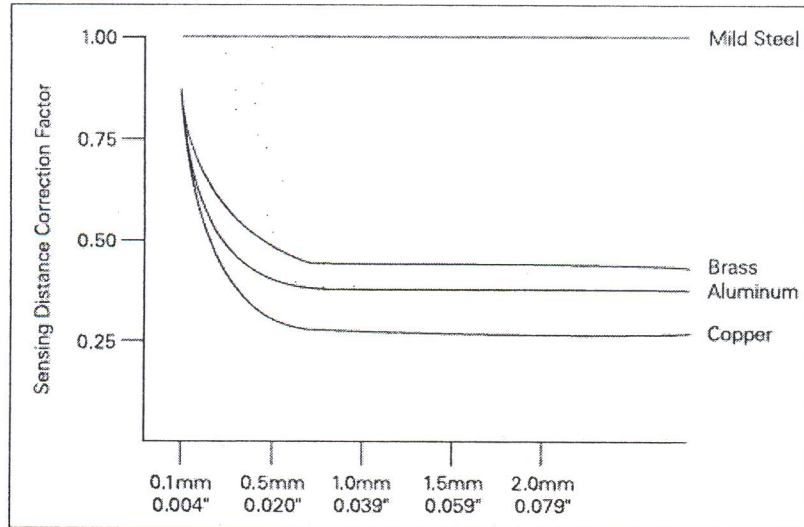

Figure 5: Target Thickness Reduction Factor
- (a) **Figure 5** is the approximate reduction factor for target material